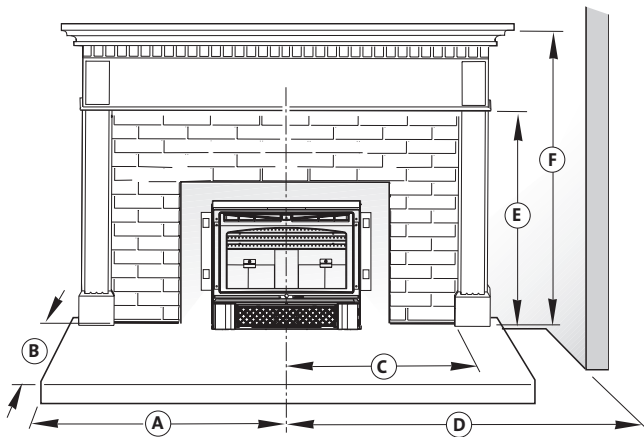

Figure 6. Clearance Diagram - No Heat Shielding
- Clearance (open space) must be maintained between the fireplace insert and combustible materials located above and to the side. See figures 6 - 8 for minimum dimensions.